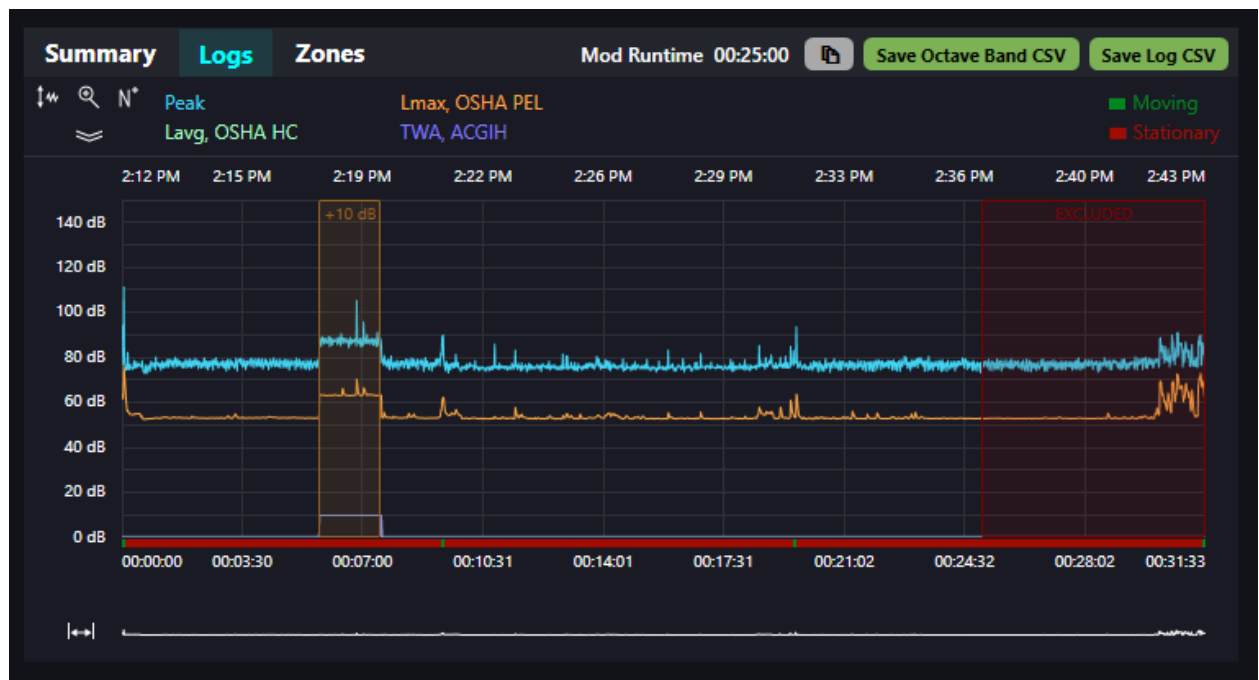

Figure 15. Zone Displayed in Logs Graph
5. The zone is listed under the Zones tab and displayed in the Logs graph (see Figure 15). Modified run time is shown. Both the original and modified data summaries will be displayed in the Summary tab and one or both can be exported to the summary report. See Figure 11 and Appendix B.